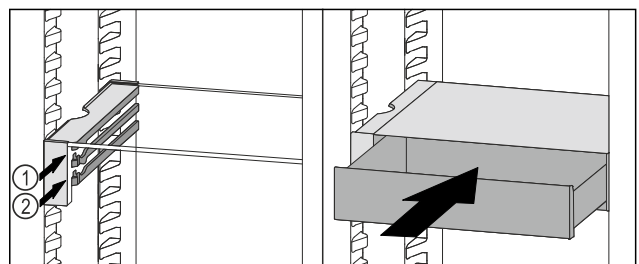

Fig. 150
- ▶ Place the VarioSafe drawer behind the stoppers on desired rib *Fig. 150 (1)* or *Fig. 150 (2)*.